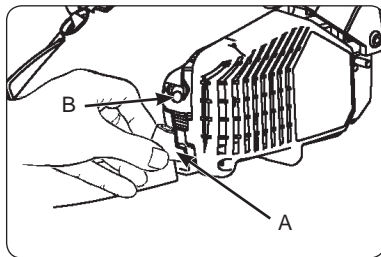

Fig. 21
2. Disconnect the wire connector (A) from the spark plug (B) by pulling and twisting at the same time (Fig. 21).